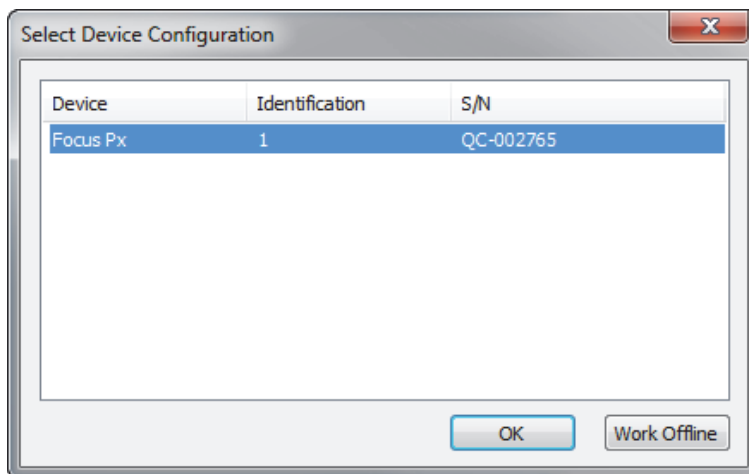

Figure 1-28 Example of the Select Device Configuration dialog box
6. When you start the **Inspection** edition, the **Select Device Configuration** dialog box appears (Figure 1-28 on page 44). In the dialog box, do one of the following: